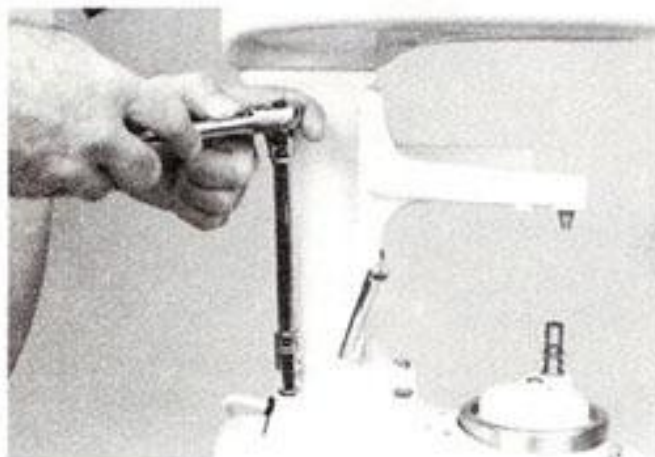
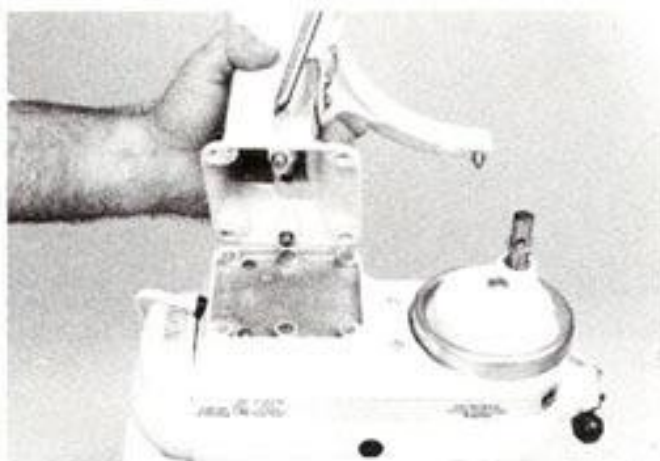

Fig. 86
Fig. 87
- C. To replace the bowl support, remove the four $\frac{5}{16}$ "-18 x $\frac{3}{4}$ " round head screws (Fig. 86) and lift the gear case and motor housing off the column (Fig. 87).